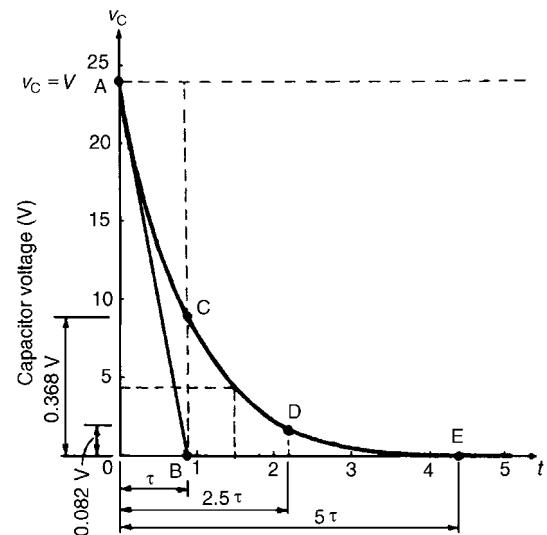

Figure 18.5
- The exponential decay of capacitor voltage is from 24 V to 0 V in a time equal to five time constants, i.e.  $5 \times 0.88 = 4.4 \text{ s}$ . With reference to Fig. 18.5, to construct the decay curve:
- (vi) the value of the transient after a time equal to two and a half time constants is  $0.082 \times 24 = 1.97$  V, shown as point D in Fig. 18.5,
- (b) The voltage drop across the resistor is equal to the capacitor voltage when a capacitor is discharging through a resistor, thus the resistor voltage/time characteristic is identical to that shown in Fig. 18.5 Since  $v_R = v_C$ , then at 1.5 seconds after decay has started,  $v_R \approx 4.4$  V (see (vii) above).